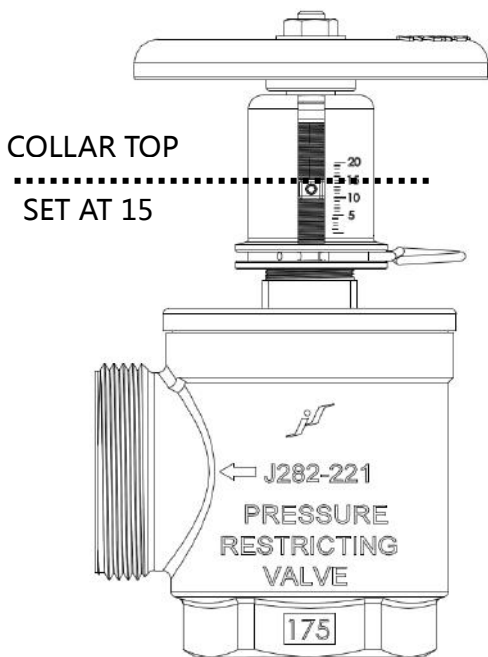

Fig.1
6. Rotate indicator-cap until top collar reaches selected setting number. See Fig.1